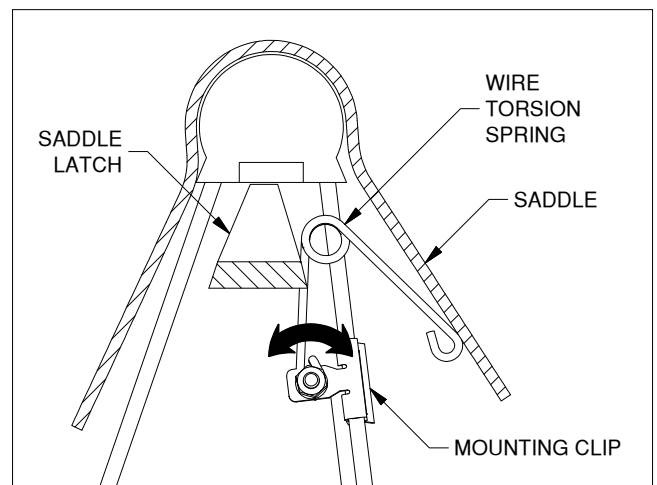

FIGURE A5:
- Adjust and tighten the spring.** By rotating the spring on the clip, the orientation of the top surface of the coupler can be set. (To increase the rotational force on the head, rotate the coil of the spring toward the cab of the truck.) Rotate the spring to the desired angle and fully tighten the 1/4" hardware. Make sure the orientation of the spring does not interfere with the saddle latch, see figure A5.